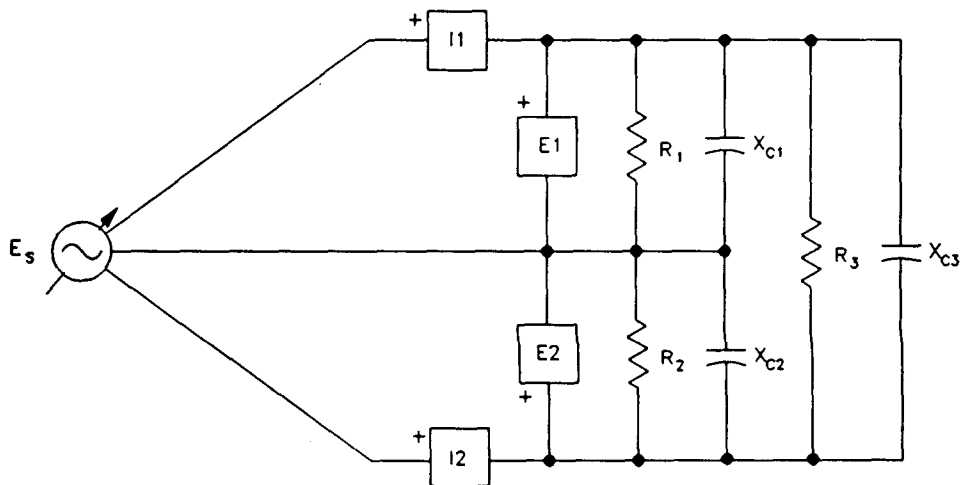

Figure 6-17. Adding Capacitance to The Delta-Connected Load.
31. Add capacitance in parallel with the delta-connected load as shown in Figure 6-17, and set X_{C1} , X_{C2} , and X_{C3} to the same values as R_1 , R_2 , and R_3 . Turn on the power and readjust E_s if necessary to obtain the value used previously.